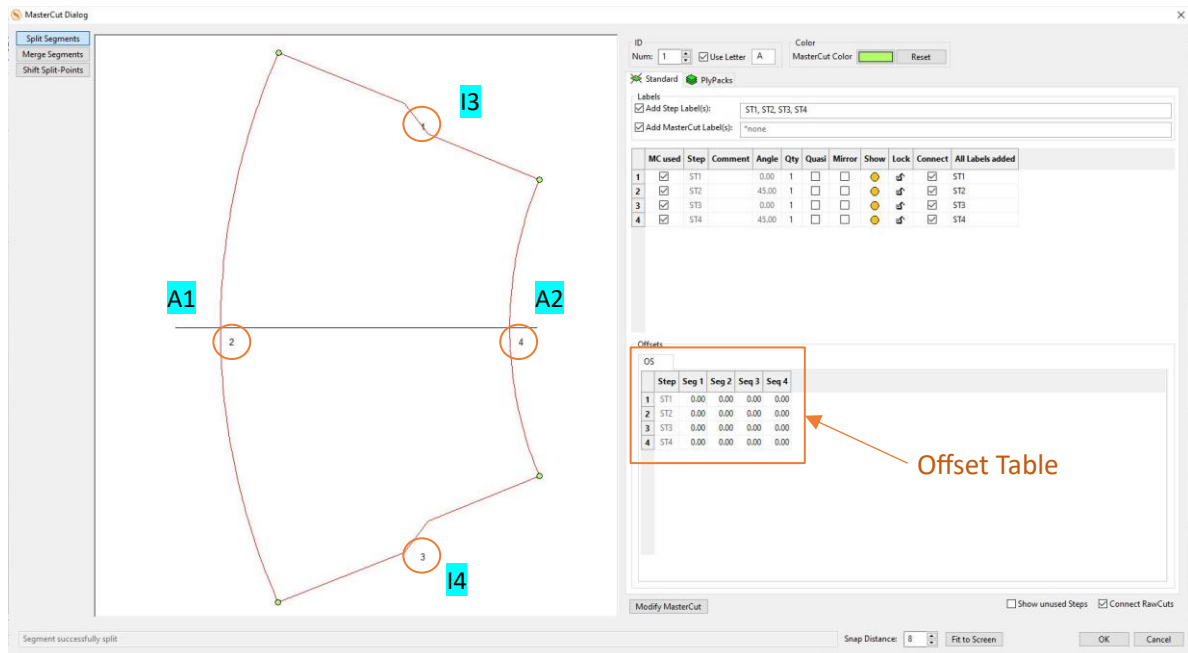

Figure 111
18. Considering the offset table already used previously, expanded by the segment numbers in the second line, we can now transfer the offset values from Table 6 into the offset table of the MasterCut Dialog (Figure 111).